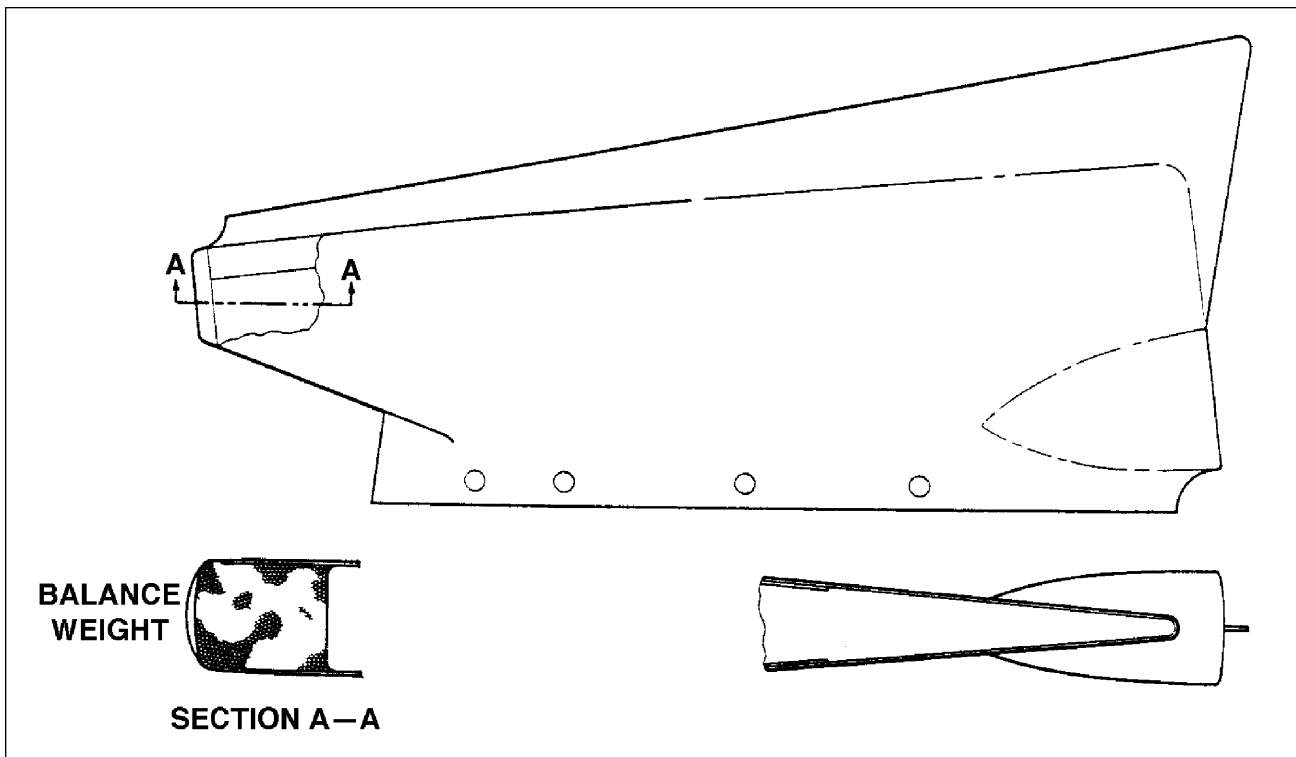

Figure 4-26. Rudder Balance Weight
- b. Trailing Edge Heavy: This condition is caused by a light balance weight or a heavy rudder as a result of paint or repairs. A light balance weight is highly improbable because it is enclosed in fiberglass per Figure 4-26, Section A-A. Paint build-up must be stripped and surface repainted. If the rudder is too heavy as a result of repairs, the repairs must be removed and damaged parts replaced.